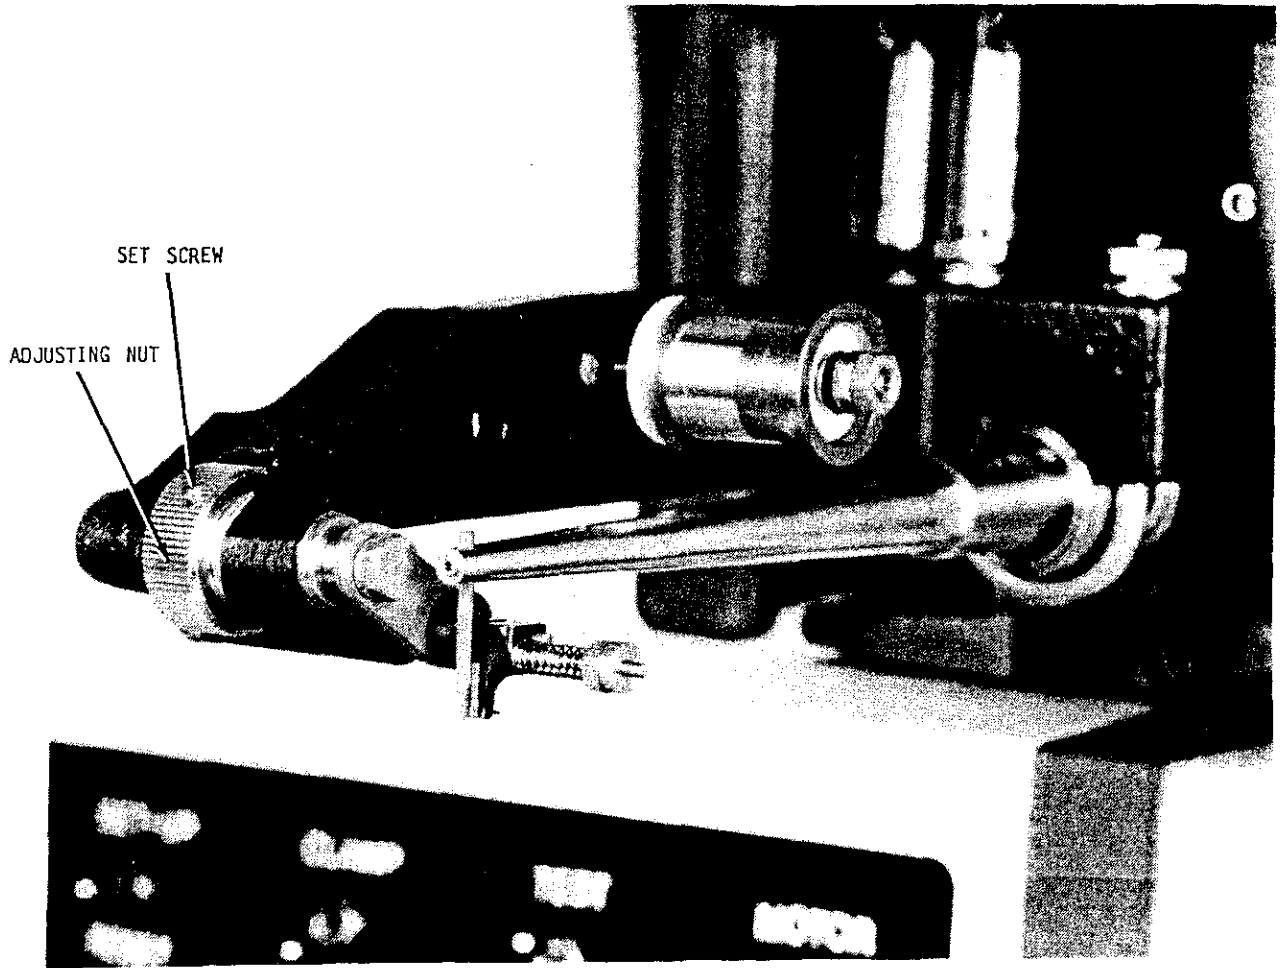

Figure 9-9 Wire Clamp Lateral Position Adjustment
- Step 2 Loosen the set screw (see Figure 9-9). Adjust the lateral position of the Clamp by turning the knurled adjusting nut until the wire is centered under the Wedge foot.